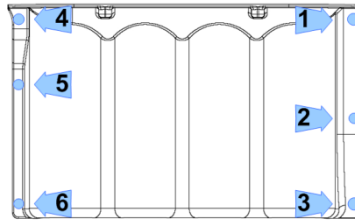

Figure 34 – Capacitor Cover Torque Sequence
40. Place the Capacitor Cover and secure it with the long fastener (M5 x 20) and flat washer in position number three (3) as shown in the following figure. Use five (5) remaining fasteners to secure the cover. Fasten according to the sequence in Figure 34 (Capacitor Cover Torque Sequence). Follow the sequence twice.